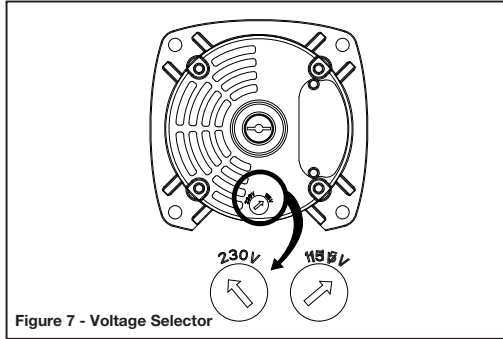

Figure 7 - Voltage Selector
- The voltage of power supply must match the voltage of the pump. The motors can be converted to 115 or 230 volts by changing the voltage selector to the desired voltage. Use a needle nose pliers to pull the selector out approximately 1/4", rotate and then reinsert in correct position (Figure 7).